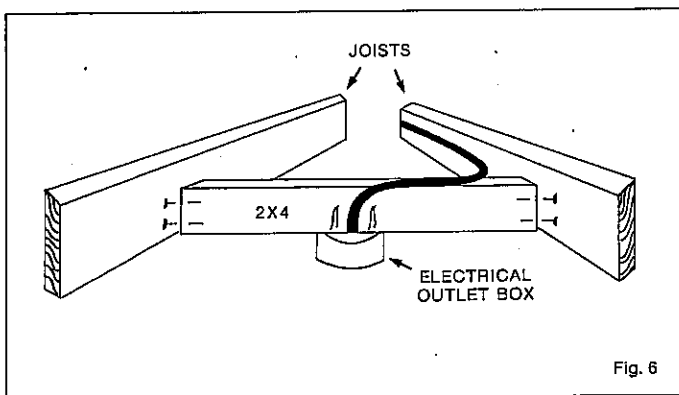

Fig. 6
- B.** If the mounting site is not centered under an existing ceiling joist (See Figures 4 and 5) it will be necessary to reinforce the mounting site with a cross member. See Figure 6. The cross member must be a minimum 2" x 4" size and securely mounted between the ceiling joists with nails or wood screws.
- C.** Drill (2) holes no larger than minor diameter (11/64") of bracket screw, 2" deep, 2-9/16" apart in center of joist. Bracket may be used for hole-pattern.